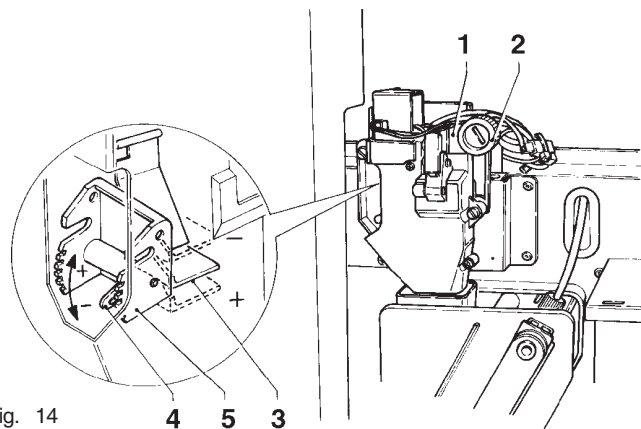

Fig. 14
When selecting coffee, the grinder is started and will continue until the coffee doser chamber is full (see Figure 14).
When a variation in the grade of grinding is desired, turn the relevant adjusting knob on the grinder (see Fig. 14) and more specifically:
- In addition, when the lever is fully rotated upwards, the ratchet can be released from the groove in the dose regulator (see Fig.14) and replaced into a different groove to change the average dose setting to: